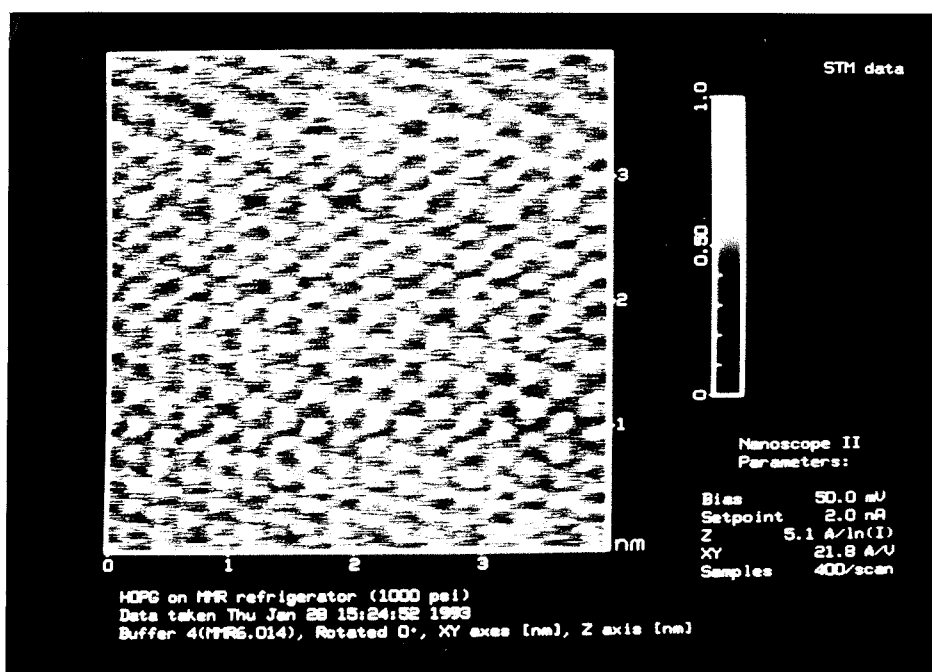

FIGURE 8
- Figure 8:** STM image with gas flowing, inlet pressure of 1000 psi. Vibration amplitude is less than 2.4 angstrom.